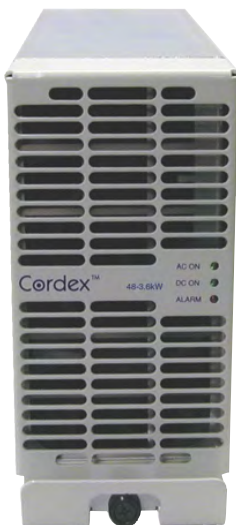

Figure 1 —
- Figure 1 — Cordex 48-3.6kW 7